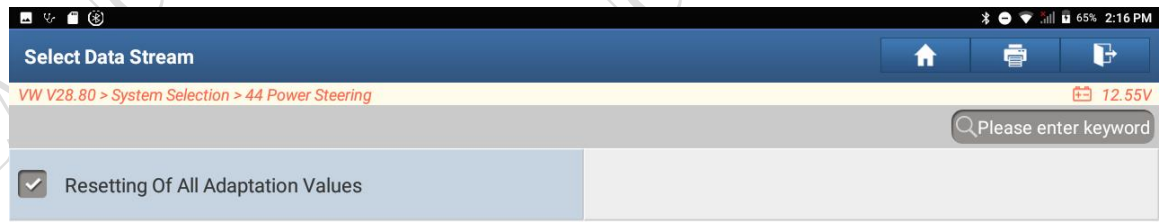

Figure 4
4. Perform [Adaptation], and click Resetting of All Adaptation Values. See Figure 4.